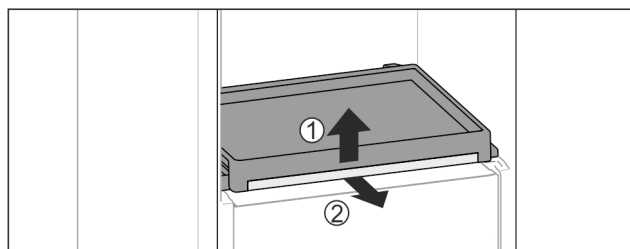

Fig. 107
- To remove the pull-out board with glass panel: Gently lift the glass panel at the front Fig. 107 (1) and pull out to the front Fig. 107 (2).